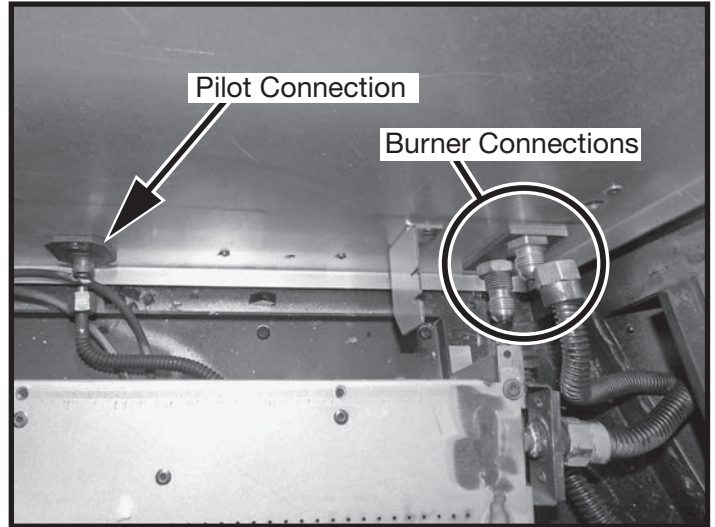

Figure 102: Gas connections in the firebox.
4. Release 3 gas connection points as shown in Figure 102.